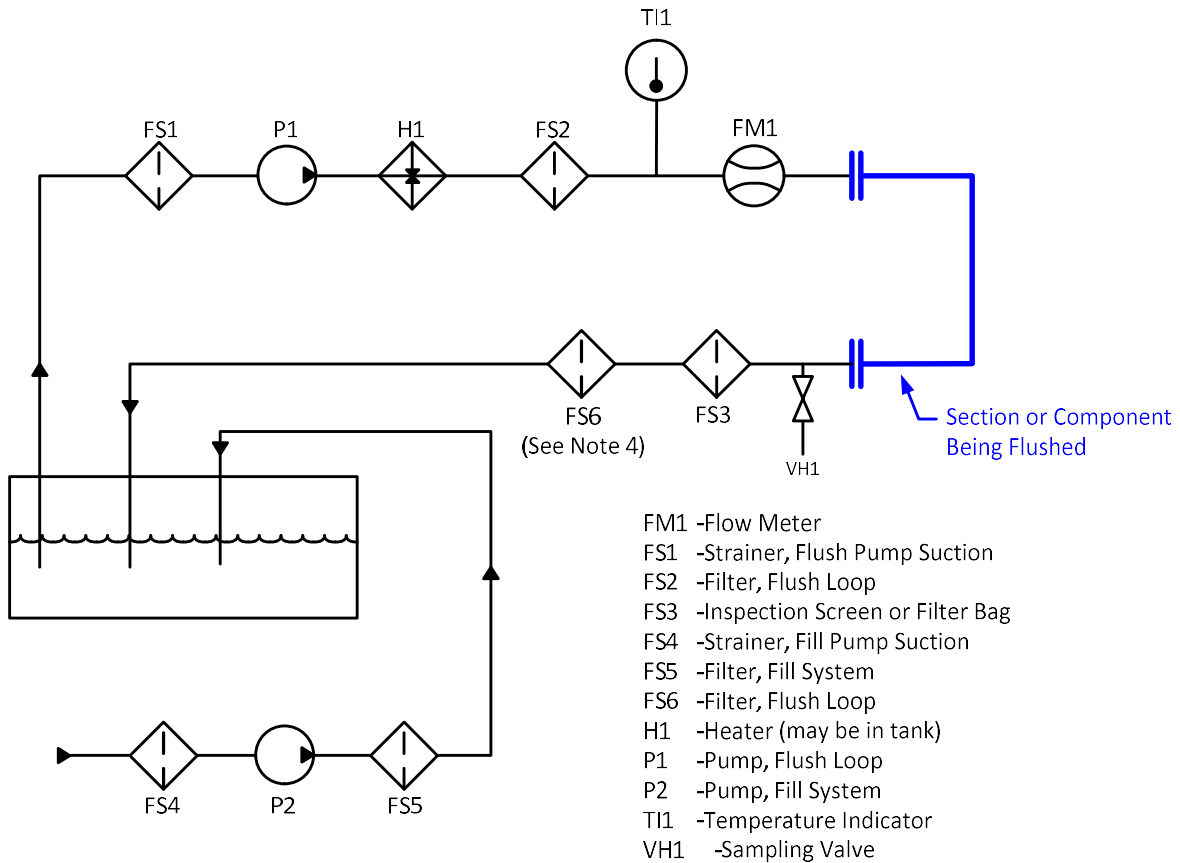

Figure 1. Typical Flushing System
Equipment required: (See Figure 1 for typical flushing system)
10. Flushing oil reservoir. The reservoir is normally contained in a flushing rig external to the package. If the package lube oil tank is used for the flush, then an extra flush loop filter should be installed where the flushing oil re-enters the tank to prevent contamination of the oil tank (see Fig. 1, Note 4).
The following flushing sequence is required to minimize the possibility of contamination of components and assemblies. It is to be followed at the manufacturing facilities and in the field. Adherence to this sequence as prescribed in Figure 1, will substantially minimize the effort and the time necessary to successfully complete the flushing operations.